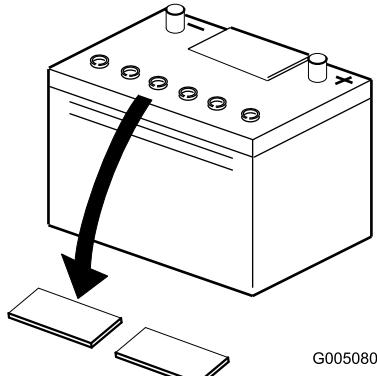

Figure 6
- Clean the top of the battery and remove the vent caps (Figure 6).